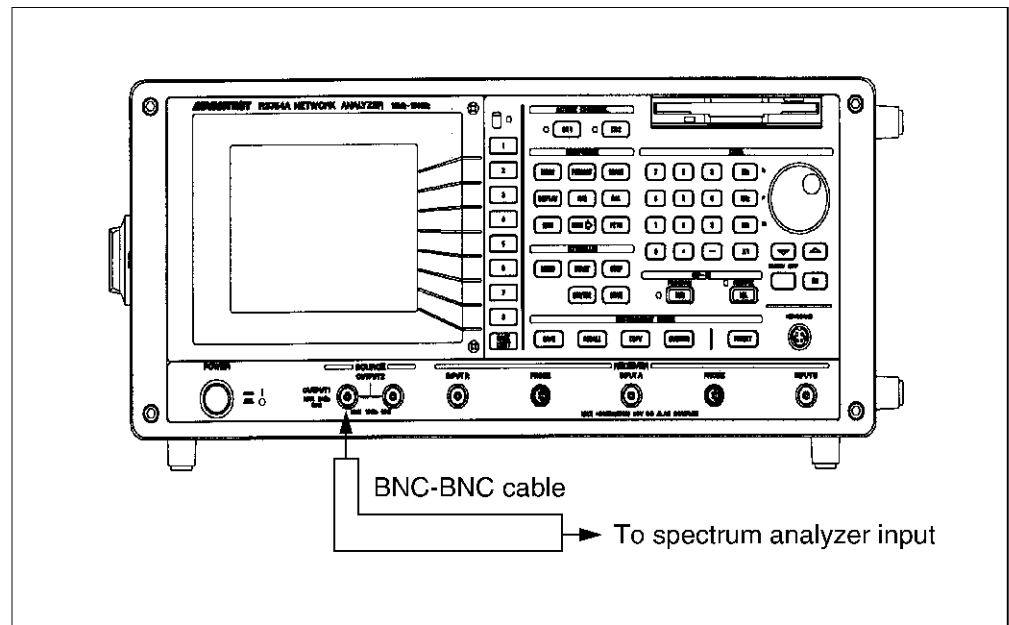

Figure 6-4 Spectrum Purity
- ① In order to measure the spectrum purity, connect the R3754 Series and the spectrum analyzer, R3265A as shown in Figure 6-4.